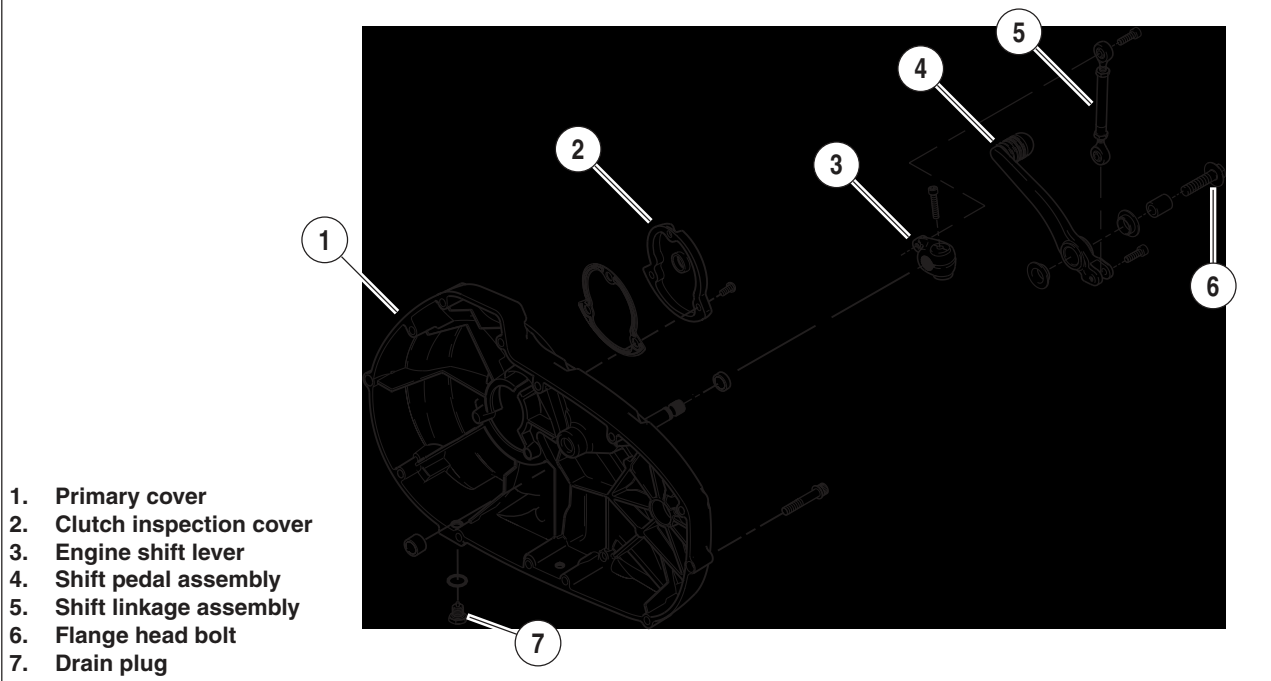

Figure 2-97. Primary Cover and Shifter Assembly
13. See Figure 2-97. Remove clutch inspection cover (2).